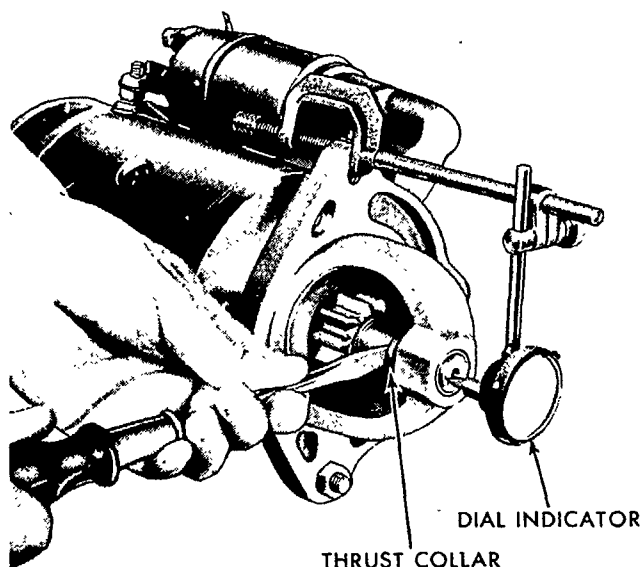

Figure 51
1. Secure the starting motor in a vise equipped with soft jaws and attach a dial indicator as shown in Figure 51.